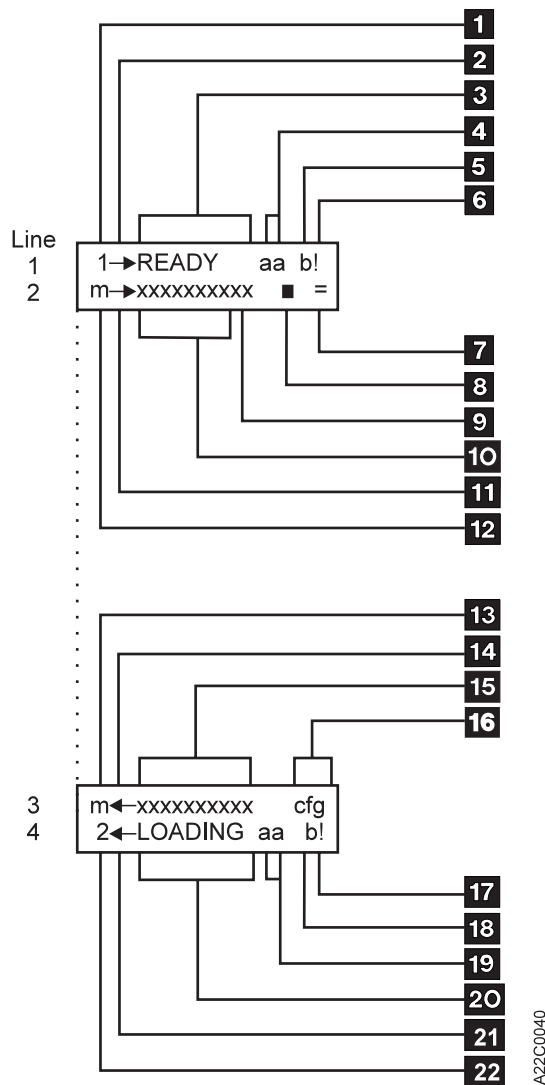

Figure 67. Status Screen
10. The Magstar MP will reset and the status screen will be displayed. The new library configuration will be displayed on line 3 of the operator panel display. (See **16** in Figure 67 on page 126).
The status screen (Figure 67) provides a view of the current operational status of the library and drive. This screen is the normal default screen. If some other screen is the current display and you want to check status, select SHOW STATUS from the Options Menu.